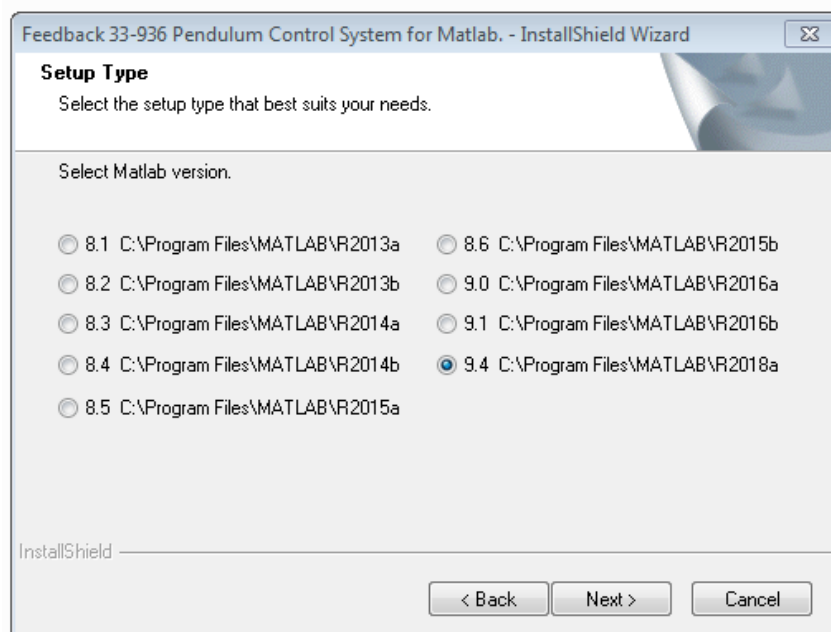

Figure 10 Matlab version choice window
4. The Matlab version choice window will appear (Figure 10).